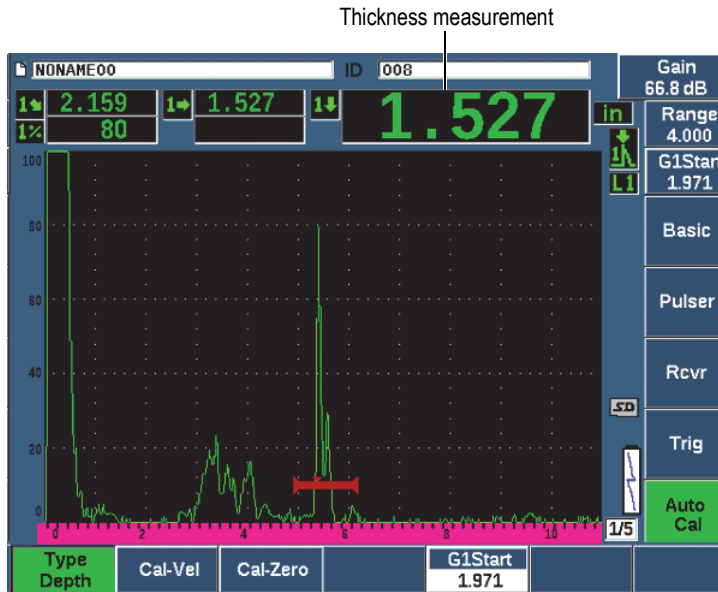

Figure 9-26 Example of a gated signal for zero calibration
- Use the G1Start button (P5 key) to position gate 1 so that the reflection from the first side-drilled hole is exceeding the gate threshold. This reflection should be close to 12.5 mm (0.5 in.) (see Figure 9-26 on page 189).